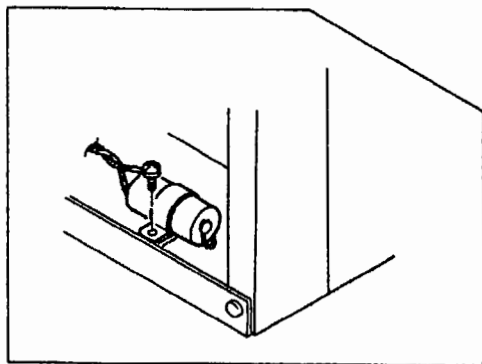

Figure 6.19
- (3) Pull the top cover to the rear to remove it. There is a lithium battery pack on the right side when viewed from the front (Fig. 6.19). The battery pack incorporates lead wires and connectors.
- (4) Remove the battery from the recorder using a Phillips screwdriver and then take the leads and connector off the battery.
- (5) Mount a new battery (Part No. : B9588ZB) onto the connector of the main board from which the used battery was removed.
- (6) Fix the battery in place with a screw.
- (7) Install the cover to complete replacement.